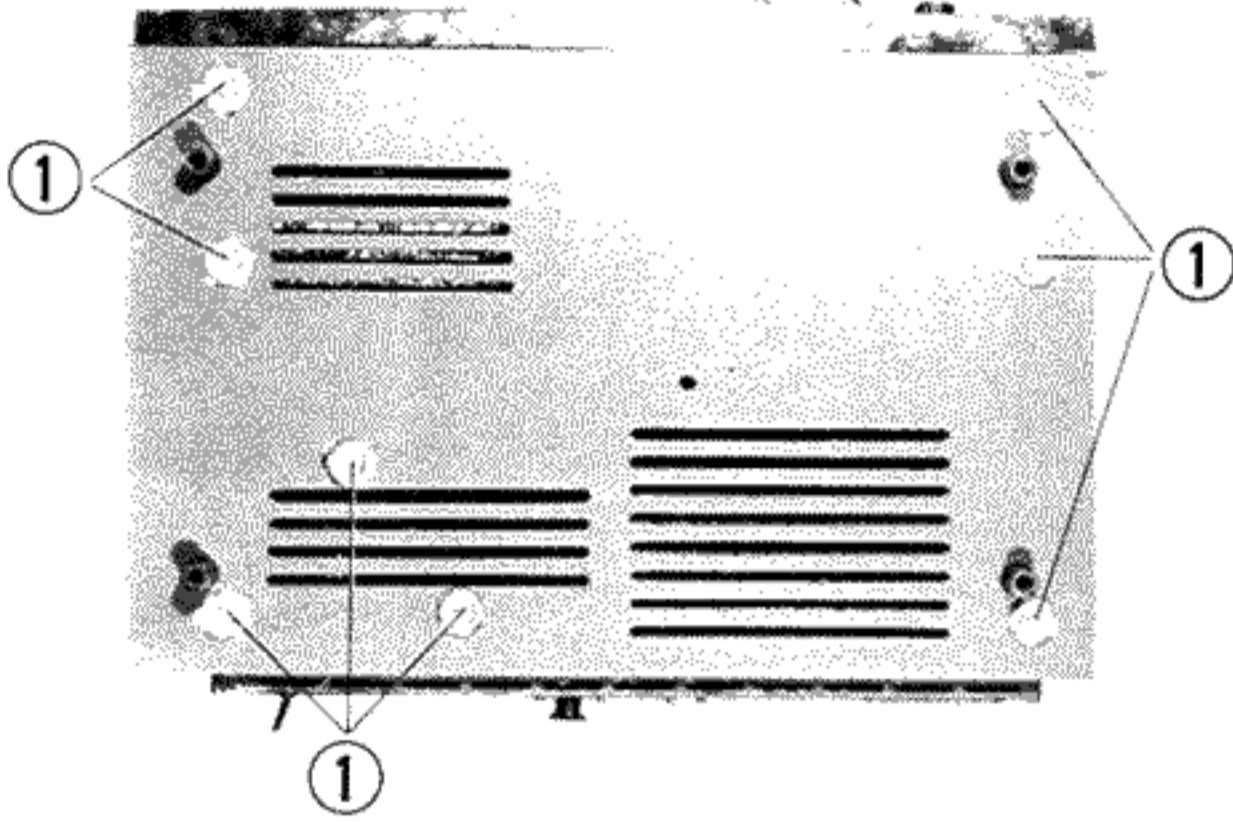
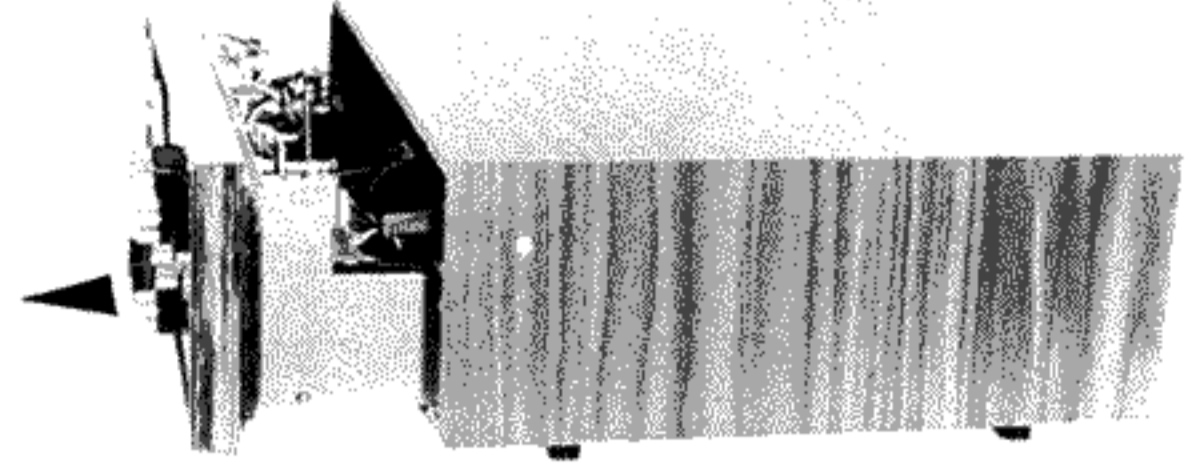

Fig. 1
Fig. 2
Remove eight screws Fig. 1, ① on bottom of cabinet, then pull chassis out in a forward direction (See Fig. 2).